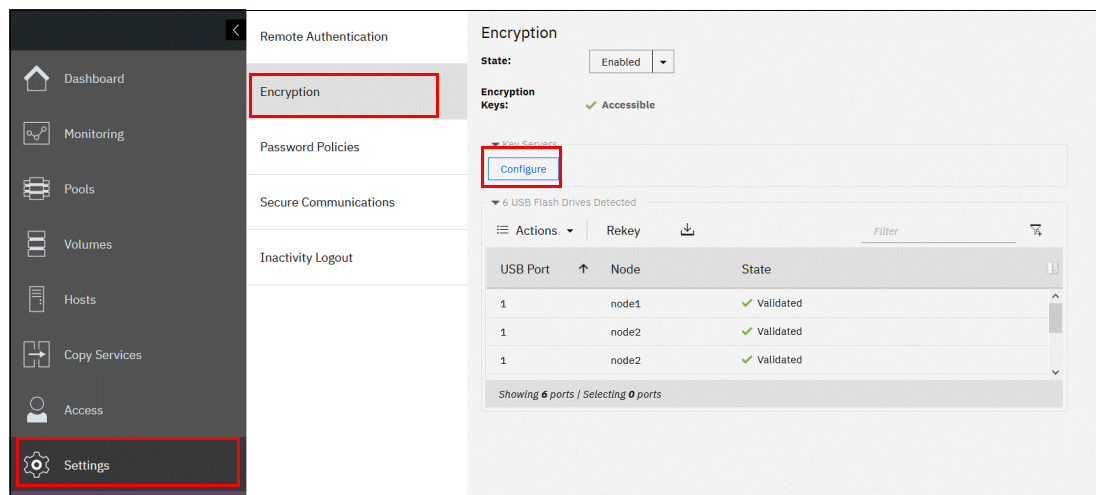

Figure 12-49 Enable key servers as a second provider
1. Select **Settings** → **Security** → **Encryption**. Expand the Key Servers section and click **Configure**, as shown in Figure 12-49. To enable key server as a second provider, the system must detect at least one USB flash drive with a current copy of the master access key.